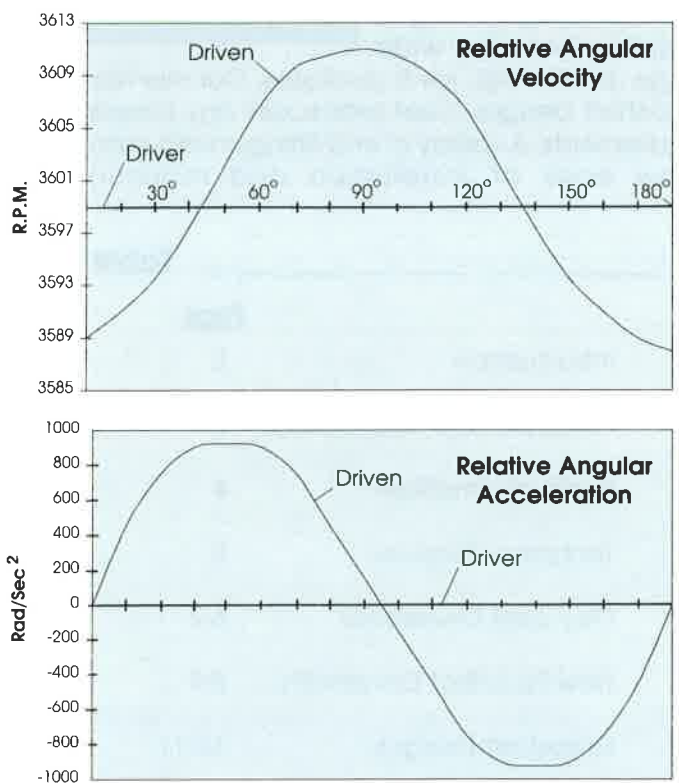

Figure 5: Motion Characteristics
When a Cardan style joint is operated at an angle, non-uniform motion output is generated, which produces a variety of unwanted vibrations (Figure 5).
- 1) Torsional excitation produced by non-uniform transmission of velocity of center member (Figure 5).